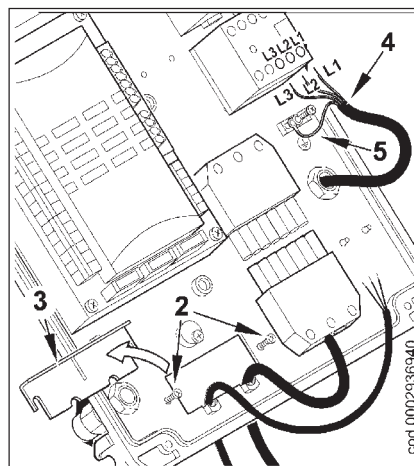

Fig. 2
- 2) Loosen the screws (2) and after removing the cable clamp plate (3), make the 7 pole plug and modulation control cable come through the hole (fig. 2). Connect the power supply cables (4) to the radio control switch, fix the earth cable (5) and tighten the cable gland.